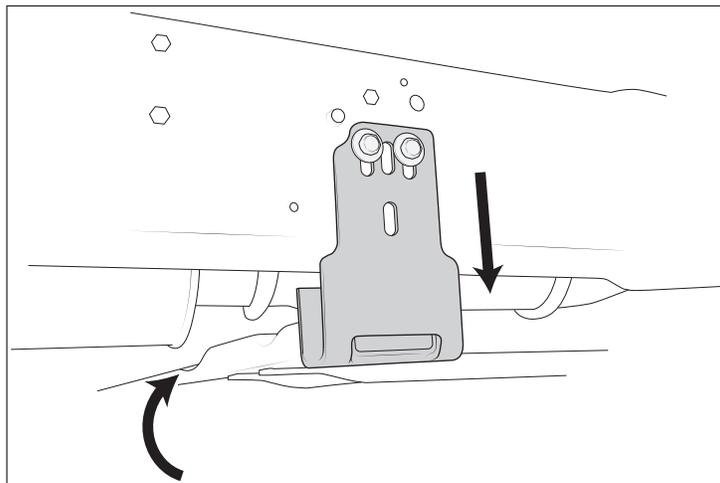

Figure 49
11. POWER WAGON ONLY – Check the clearance from the drive shaft to the skid plate. If necessary lower the skid plate brackets as shown and reconnect drive shaft (fig. 49).